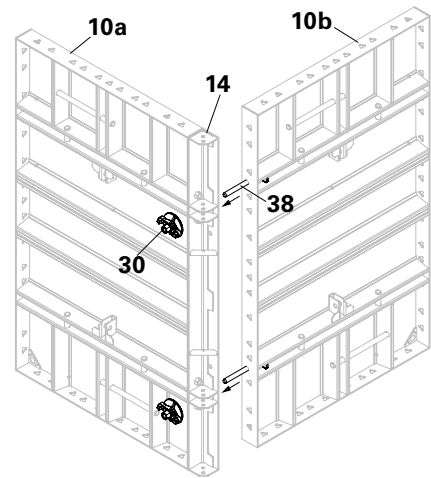

Fig. A4.16
2. Install the next panel (10b) to the assembly of panel (10a) + HSA external corner (14) using HSA corner connector DW 15 (38) and wingnut counterplate DW 15 (30) (Fig. A4.16)